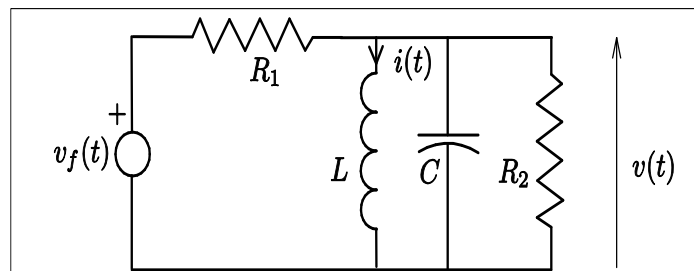

Figure 2: Electrical network. State space model
(18) Consider the simple electrical network shown in Figure 2 below. Obtain the state space model of the output voltage  $v(t)$  by applying the fundamental network laws.